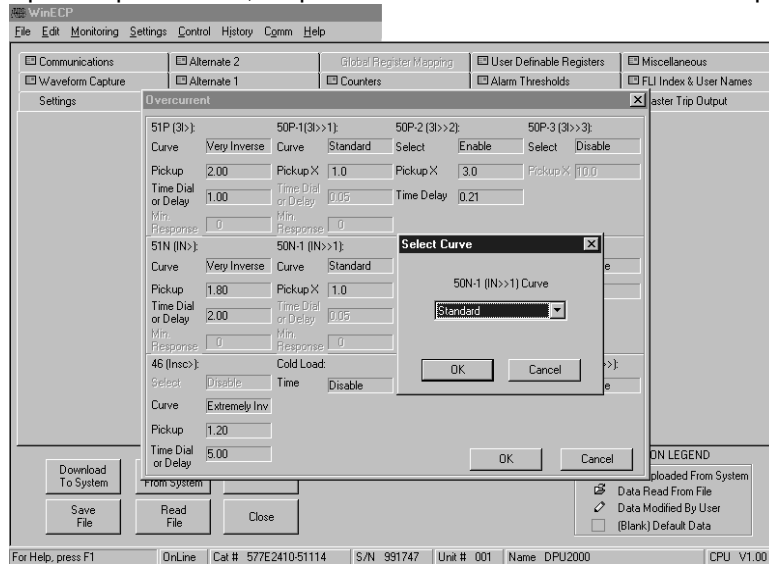

Figure 13-15. Primary Settings for the Feeder DPU1500R/2000R
1. Set the 50P-1 and 50N-1 functions in the Primary Settings table as follows (see Figure 13-15):